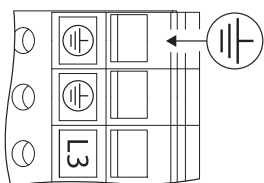

Fig. 27: Additional earthing
- Due to the increased discharge current in motors with more than 11 kW, it is also necessary to connect reinforced earthing acc. to EN 50178 (see Fig. 27).